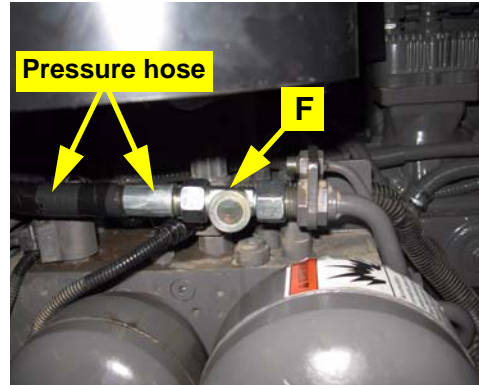

Figure 8b: Installed pressure fitting
- b. Disconnect the rubber pressure hose from the steel line and install run-tee fitting **F** between the steel and rubber hoses (Figure 8b).